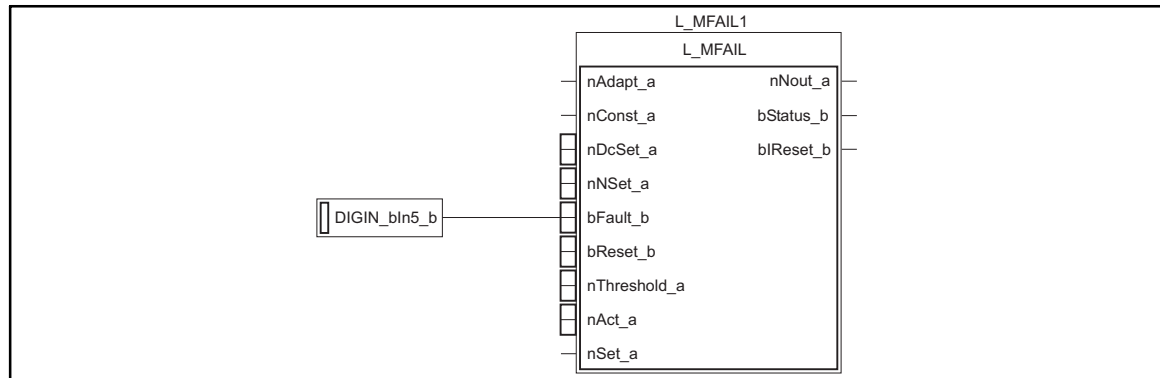

Abb. 2-8
Programming the example in Abb. 2-8:
- Set the signal links according to Abb. 2-8